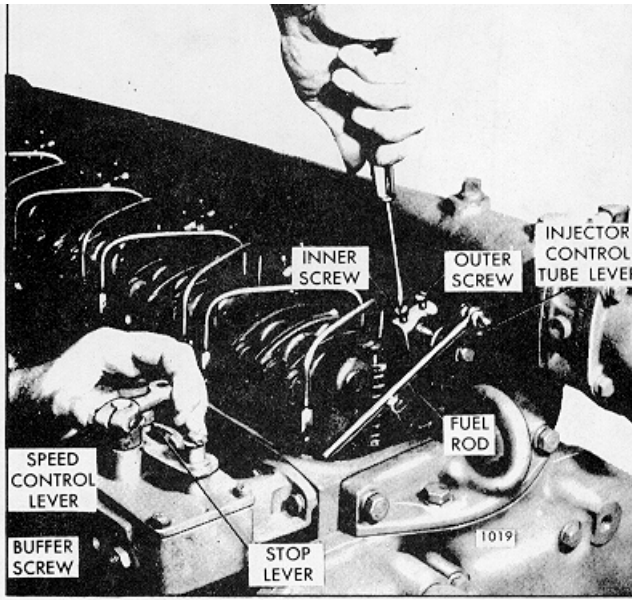

Fig. 3 - Positioning No. 1 Injector Rack Control Lever
- 2 Back out the buffer screw until it extends approximately 5/8" from the lock nut (Fig 3).
- 6 Remove the fuel rod from the differential lever and the injector control tube lever (Fig 3).
Adjust the No. 1 injector rack control lever, Fig 3, first to establish a guide for adjusting the remaining injector rack control levers.